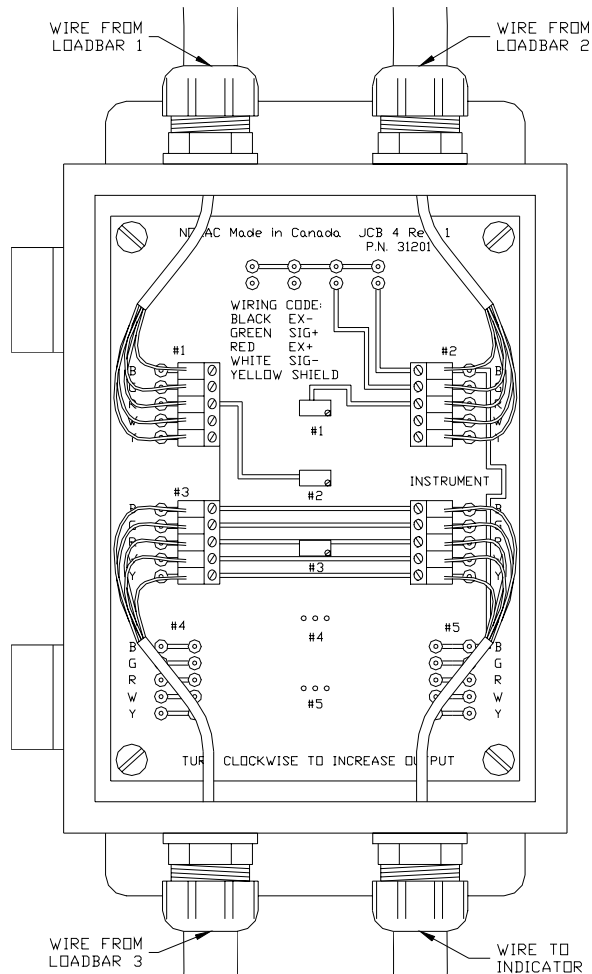
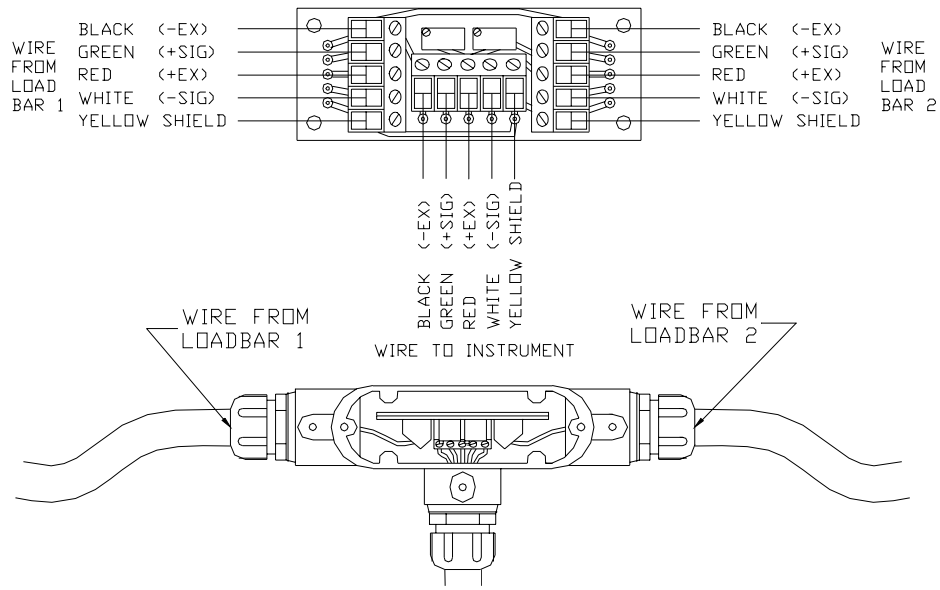

Figure 19 - 31-20-L3 Junction Box
Figure 20 - 31-21 Junction Box Wiring
2. Route the loadbar cable into the junction box (see Figure 19 or Figure 20 for the 3 and 2 loadbar junction boxes respectively). Allow enough cable to wire the cable to the junction box circuit board.
All NORAC loadbar and indicator wiring follows the same wiring color code. The 31-20-L3 junction box has both the wire color and loadbar number printed directly on the circuit board (see Figure 19). The circuit board in the 31-21 junction box is not labeled, but follow the same wiring convention as all NORAC scales (see Figure 20). When looking at the front of the connector, wires are located from left to right by color alphabetically. Always ensure that only same colored wires are connected to each other.